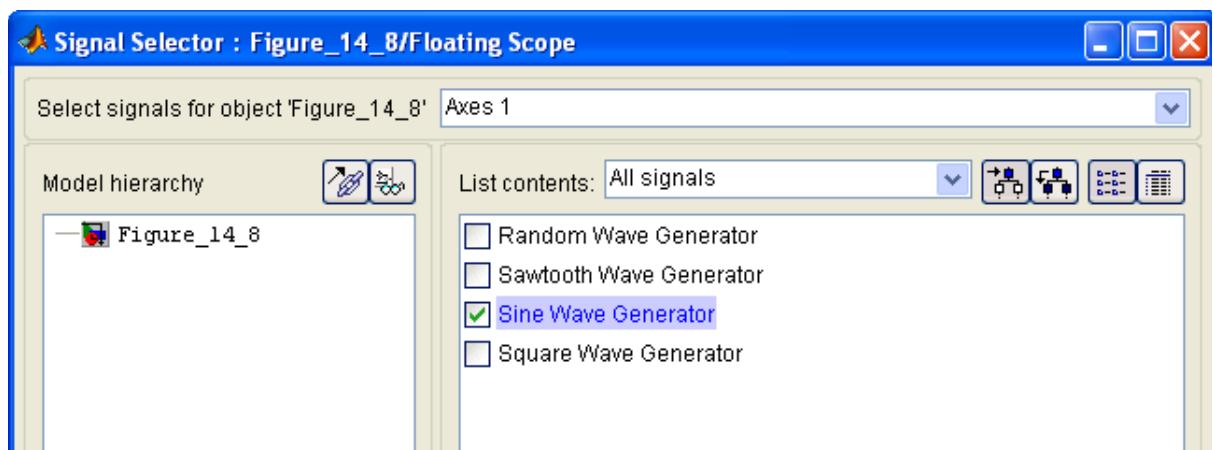

Figure 14.12. The Signal Selector window for the model of Figure 14.8
4. We right-click on the axis with the blue border around it, we click on **Axis properties** we set the y-axis at -1 (min) and $+1$ (max), we right-click again, and we click on **Signal selection**. On the Signal Selector window shown in Figure 14.12 we choose the Sine Wave Generator.